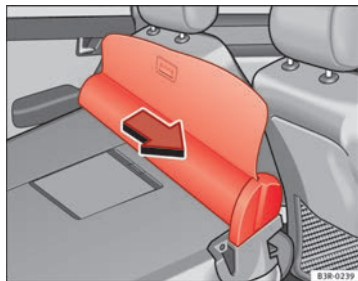

Fig. 121 Removing luggage compartment cover / net partition
- Pull the net partition in the direction indicated ⇒ Fig. 121 and lift it out of the retaining rails.